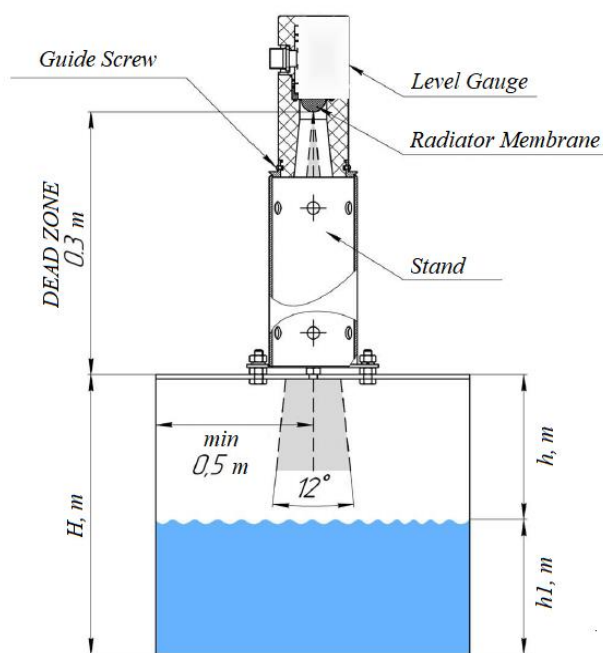

Figure 3. Installation Requirements
The minimum measurement reference point is 0.3 m from the radiator membrane (see Fig. 3). It is called "dead zone" of the Level Gauge, when the reflected signal arrives to the sensor so soon that the Level Gauge does not have time to adjust from transmission to reception and the surface cannot be detected.
Proper installation of the Level Gauge is necessary for reliable operation of the radio wave level measurement system. The Level Gauge with a stand is designed to be installed on the top of the tank using bolts and nuts. Guide slots of the Level Gauge and guide screws of the stand help to attach it to the stand quickly (see Fig. 3).
It is recommended to install the U-150 Level Gauge at a distance of at least 0.5 m from the walls of the tank in order to avoid weakening or loss of the echo/signal (see Fig. 3).
- **HOLDER HEIGHT.m** – distance from the radiator membrane to the stand's flange (0.3 m, see Fig. 3);
- **TANK HEIGHT.m** – distance H on Fig.3;